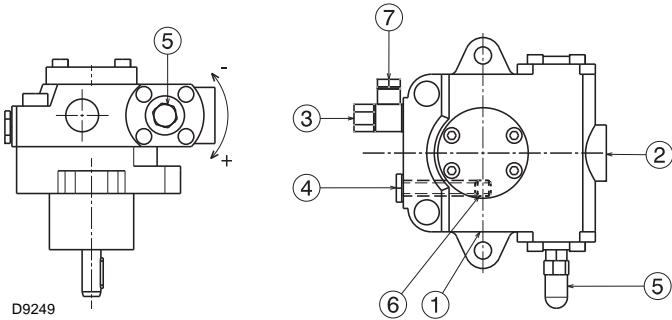

Fig. 23
Key (Fig. 23)
- In order for self-priming to take place, one of the screw 4) (Fig. 23) of the pump must be loosened in order to bleed off the air contained in the suction line.
The a.m. operation is possible because the pump is already full of fuel when it leaves the factory. If the pump has been drained, fill it with fuel through the opening on the vacuum meter 4)(Fig. 23) prior to starting; otherwise, the pump will seize.